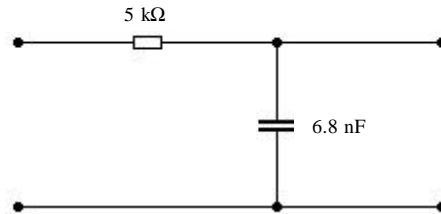

Figure 2.1
a) Connect the circuit shown in Figure 2.1.
Replace the capacitor in Figure 2.1 by an inductor with an inductance $L = 150 \text{ mH}$.
Use the same circuit as in Figure 2.1, but replace the sine-wave by a square-wave with the amplitude of about 10 V. Observe the waveform of the output voltage. Choose the generator frequency in such a way that the asymptotic part of the exponential waveform of the output voltage is fully developed. Measure carefully:
Replace the capacitance in Figure 2.1 by an inductor with inductance $L = 150$ mH. The analytical expression for the time constant in the RL circuit is $\tau = L / R$.
- (a) **Measurement.** Use the same circuit as in Figure 2.1. Connect a sine-wave generator with the amplitude 10 V as input voltage. Use the first channel of the oscilloscope to measure the input voltage and the second channel to measure the voltage over the capacitance. Use the add and invert functions of the oscilloscope to get channel 1 – channel 2, i.e. the voltage over the resistor. The voltage over the resistor can then be used to get the current as $i(t) = u_R(t) / R$. Measure the phase shift between the current and voltage. Perform these measurements in the frequency range 1 kHz to 10 kHz in steps of 1 kHz.
- (b) Place an inductance $L = 150$ mH in series with the capacitor in figure 2.1 Measure the voltage over C and L .